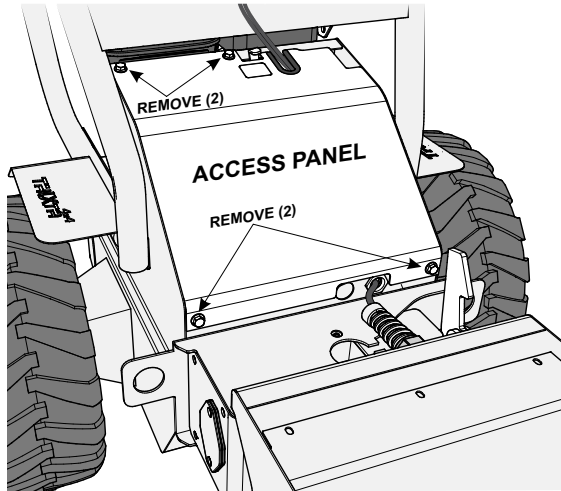

Figure 41. Rear Access Panel Removal
1. Remove the four screws (Figure 41) that secure the rear access panel to the frame.